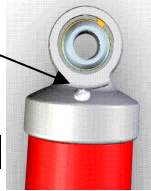

Figure 2
- i. Depressurize shock by **SLOWLY** loosening the hyper-screw located on the cap. When all pressure is relieved, completely remove the screw. See **Figure 2**.